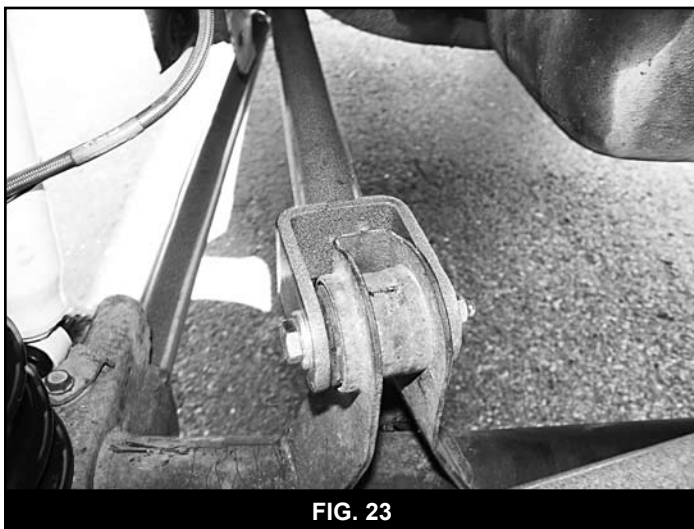

FIG. 23
60. Attach the clevis end of the upper control arms to the front axle mounts (Fig 23). The clevis end will angle in toward the center of the vehicle. Fasten the arms to the axle with 10mm x 80mm bolts, nuts and 3/8" SAE washers (BP 715). Leave hardware loose.